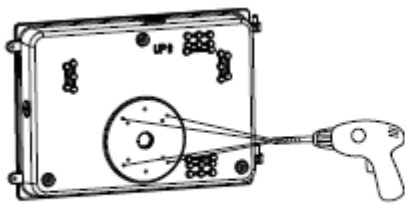

Fig. 1-2A
2. Drill the appropriate holes that match most junction-boxes at the back of the fixture (Fig 1-2A). Install the provided self-adhesive gasket to the back of the fixture (Fig 1-2B).